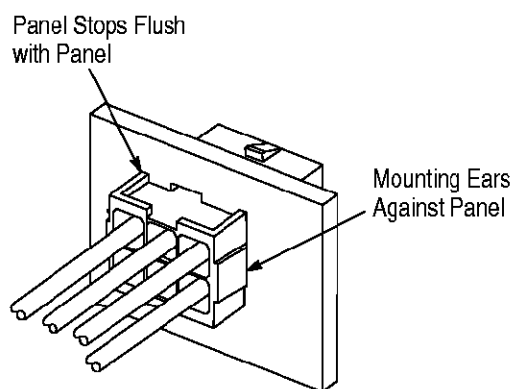

Figure 5
2. Insert the cap housing (mating face first) through the panel cutout in the same direction as the punch. Make sure that the panel stops are flush with the panel, and the mounting ears are against the panel. Refer to Figure 5.